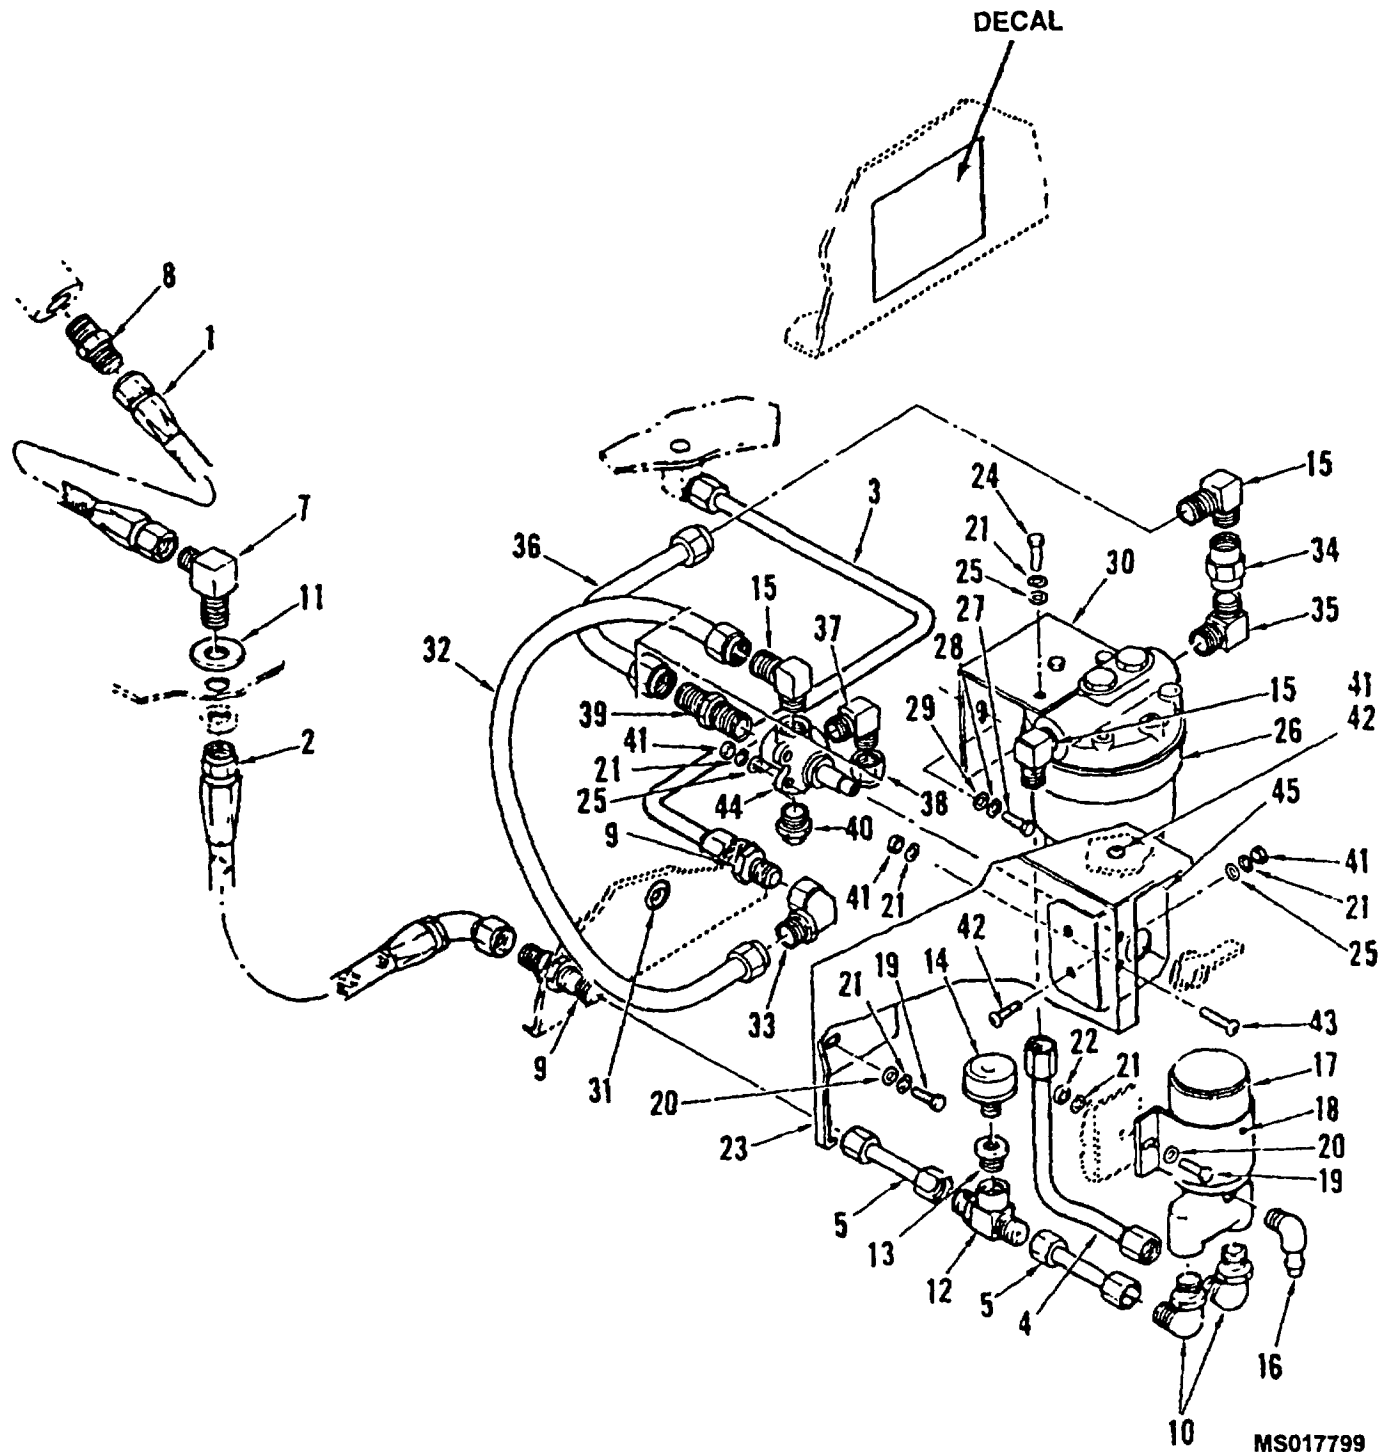
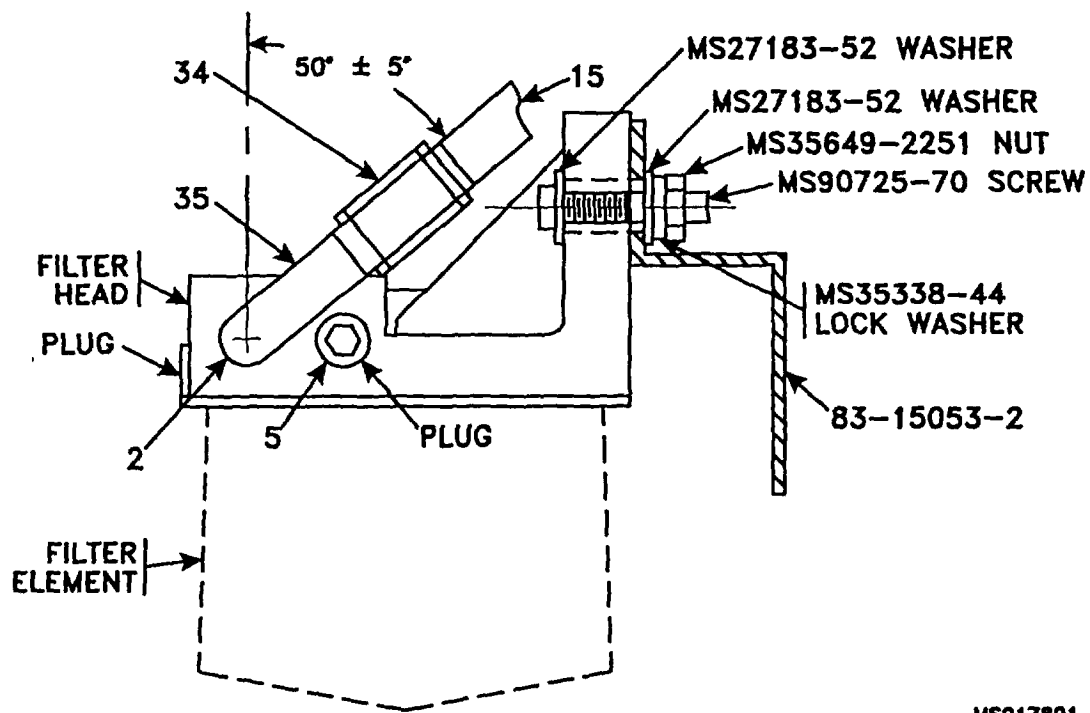

Figure 1. Fuel Pump and Filter Installation
Figure 3. Racor Filter/ Separator Installation
4. Removal of Kaydon Filter. Refer to Figure 1.
- d. Remove fuel tube, item 4 at only the fuel pump elbow, item 10.
- e. Remove fuel hose, item 36 at only the filter separator connection at item 15. Use two wrenches to stabilize the hose and loosen the fitting.
- f. Remove fasteners items 27, 28, 29 holding the fuel support bracket to the AGPU frame. The easiest method to loosen the screws is to reach around the air cleaner box just to the right of the filter separator. There are weldnuts secured to the inside of the AGPU frame that are not to be removed. The removed fasteners will be used to attach the new filter support bracket.
- i. Remove the 90 degree fuel tube item 4 from the filter separator and item 15 that was connected to item 4. The fuel tube item 4 will be reused for the new filter/separator.
- j. Remove items 15, 34, and 35 from the filter separator.
d. Installation of the inlet fittings Refer to figure 1 and figure 2. Install 90 degree elbow (item 35, figure 1), and adapter tube (item 15, figure 2). Orient the plumbing assembly at 50 degree as shown in figure 3. Use pipe dope and install per para a, above.
e. Installation of outlet fitting Install 90 degree elbow (item 15, figure 1) with the flared end pointing down. Use pipe dope and install per para a, above.
f. Attachment of fuel filter support (P/N 83-15053-2) to filter head Position the support as shown in figure 3 with the leg with the smaller holes (.25 in. dia) adjacent to the filter head. The two slots should be below the filter head and will attach to the AGPU frame. Hardware supplied to attach the support is four MS27183-52 washers, two MS90725-10 1/4x20 UNC x 1.25 screws, two MS35338-44 lockwashers, two MS51967-2 nuts, 1/4-20 UNC-2B. Do not tighten the nuts until after the final installation on the AGPU.
h. Attach the fuel hose (item 36, figure 1) to (item 15, figure 3). Do not tighten the fitting.
i. Attach the 90 degree fuel tube (item 4, figure 1) to the outlet port's elbow (item 15, figure 1). Do not tighten the fitting.